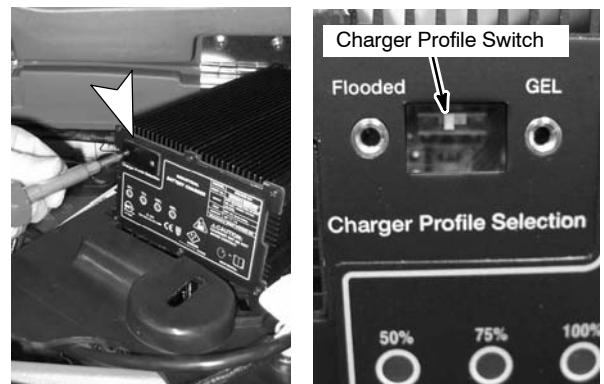

FIG. 37
2. Remove the “Charger Profile Selection” panel and position the switch towards the proper setting: “GEL” or “Flooded” (Figure 37). The charger cord must be unplugged when resetting.